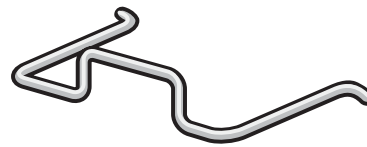

Figure 20. Power cord retaining clip
1. Locate the power cord retaining clip, shown in Figure 20.